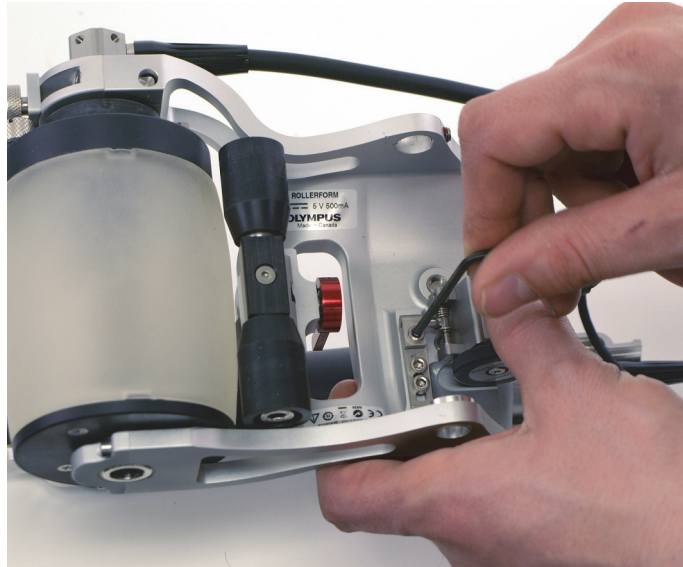

Figure 6-36 Loosening the encoder retaining screw
4. Loosen the Mini-Wheel encoder retaining screw (Figure 6-36 on page 115).